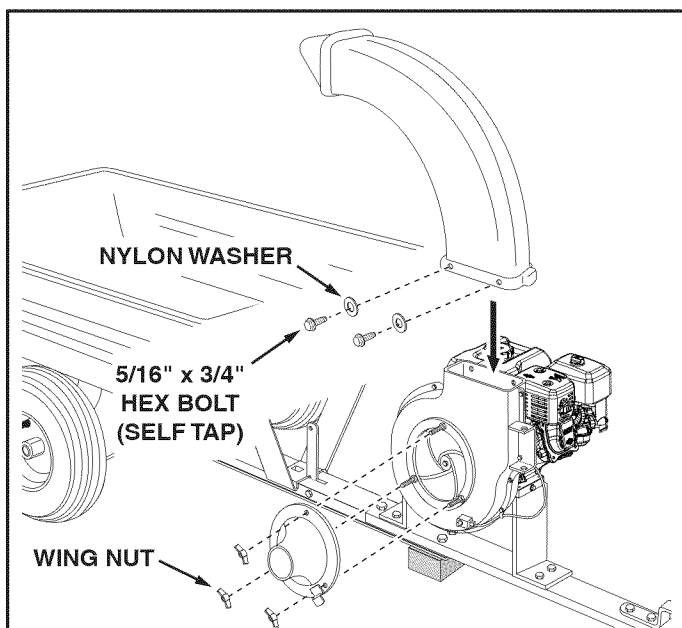

**FIGURE 9**
- Place the hose hanger rod down into the hose hanger bracket on the impeller housing assembly. See figure 9.